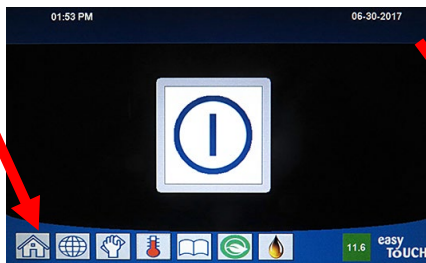

Figure 23
1. **WAIT FIVE (5) MINUTES** before proceeding to the next step.
2. Press the **"HOME"** button on the (see Figure 23).